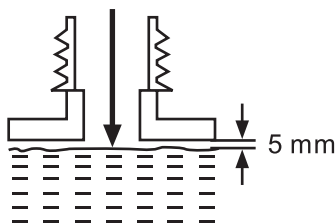

Fig. 10b
c). Use a proper funnel with a filter to prevent debris entering the tank and to avoid spilling and overfilling the tank. Do not overfill and leave approximately 5 mm of space to the lower edge to allow the lubricant to expand. (See Fig. 10b)